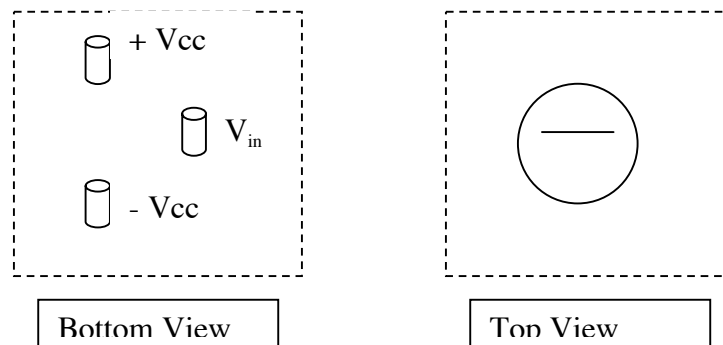

Figure 3: Bottom and Top View of Potentiometer
1. Connect both $+V_{CC}$ and $-V_{CC}$ to the potentiometer as shown in Figure 3. This circuit configuration will provide a variable DC voltage source with a range from approximately $+V_{CC}$ to $-V_{CC}$ for input to the OP AMP circuit. The potentiometers that are available in the lab should fit directly into the protoboard. Be very careful NOT to short out the potentiometer when positioning it on the protoboard.